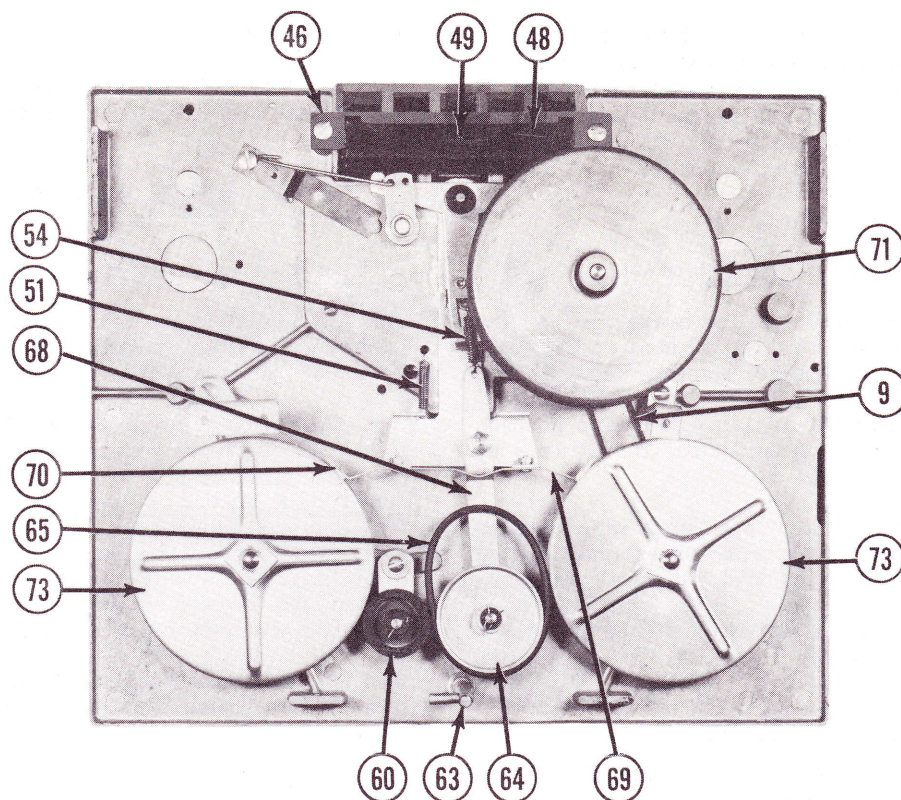

Figure 5.
Brake Shoe Adjustment - (See Figure 5)
There are some instances where the spring drive belt (9), see Figure 5, stretches after a period of time. In this case, the belt should be removed and shortened.
1. Lock plate spring (49) loose or broken, resulting in the lock plate not being held against the hinge bracket (46). See Figure 5.
No Fast Forward or Reverse (See Figure 5) -
1. Reel drive spring (9) loose or broken. See Figure 5.